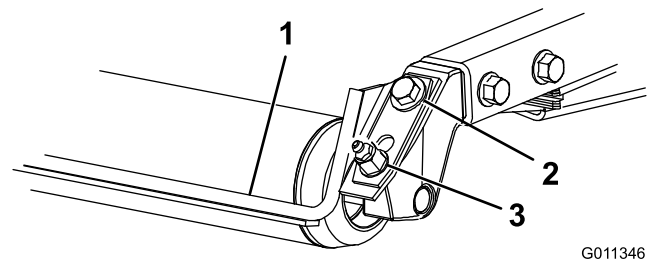

Figure 10
1. Loosen the grease fitting and the mounting screw (Figure 10).